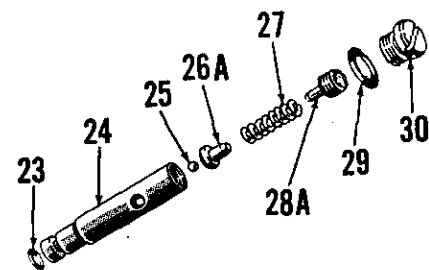

Fig. 430—Exploded view of late production detent regulating valve assembly for valves shown in Figs. 428 and 429.
Fig. 428—Exploded view of single spool remote control valve with spool detent (39) mechanism. Valve spool (7) is not shown removed from valve body; refer to Fig. 429. Refer to Fig. 430 for late production detent regulating valve assembly.
Fig. 429—Exploded view of two spool remote control valve assembly with spool detent (34 and 39) mechanism. Refer to Fig. 430 for view of late production detent regulating valve assembly.
To adjust the detent regulating valve, refer to Fig. 429 for double spool valve or to Fig. 428 for single spool valve and proceed as follows: Remove the regulating valve plug (30), then using an Allen wrench, turn the socket head adjusting screw (28) into valve body (24) to increase the detent release pressure or out to decrease release pressure. Reinstall plug with new sealing "O" ring (29) after completing the required adjustment. Late style detent regulating valve assembly is shown in Fig. 430.